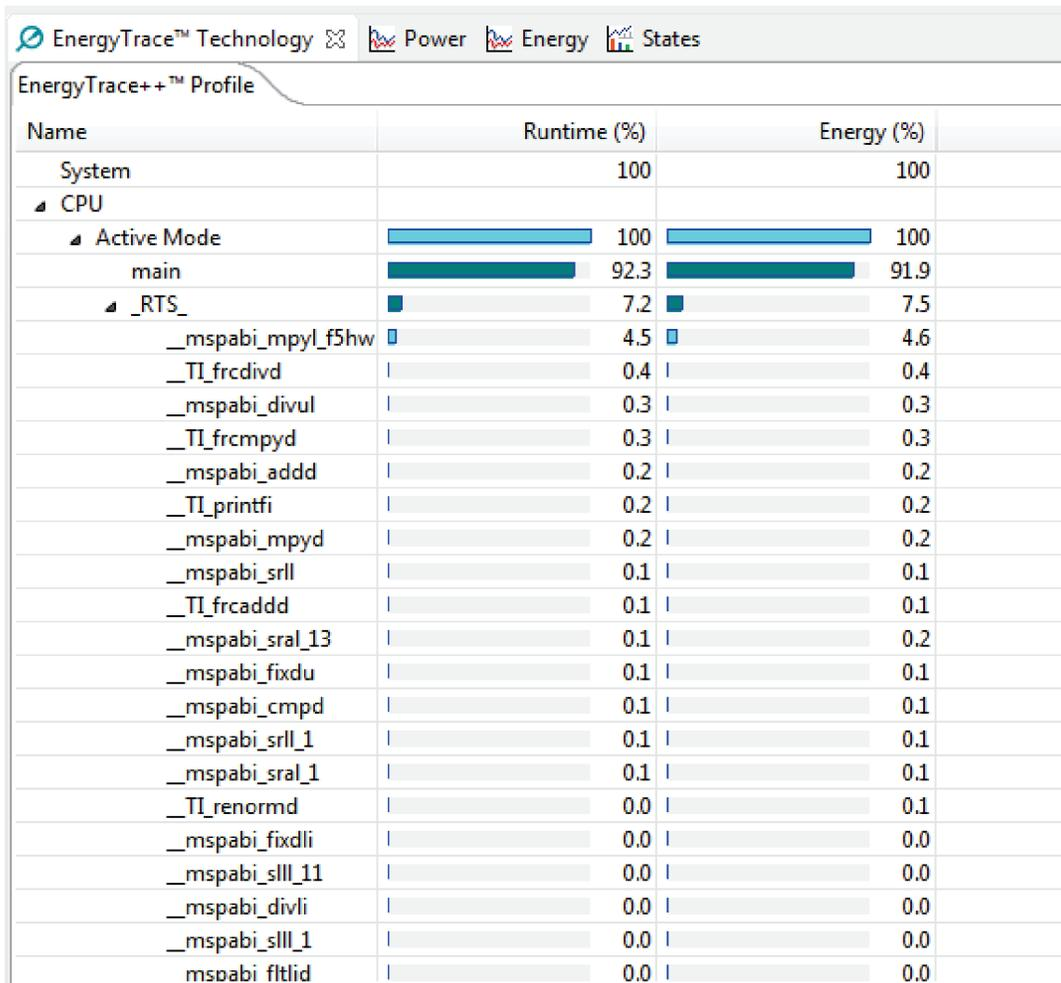

Figure 12. Inefficient.c Energy Profile
8. The *EnergyTrace Technology* window shows runtime and energy data for the low-power modes and each function used during Active Mode (see Figure 12). Runtime information is given for peripheral and clock states. The functions collected under `_RTS_` correspond to functions in the runtime system library.